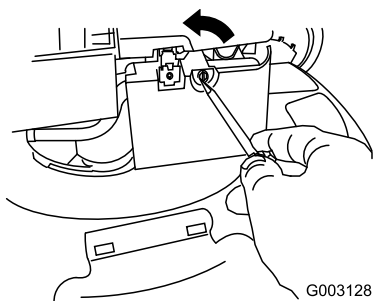

Figure 32
- Use a screw driver to open the air filter cover (Figure 32).